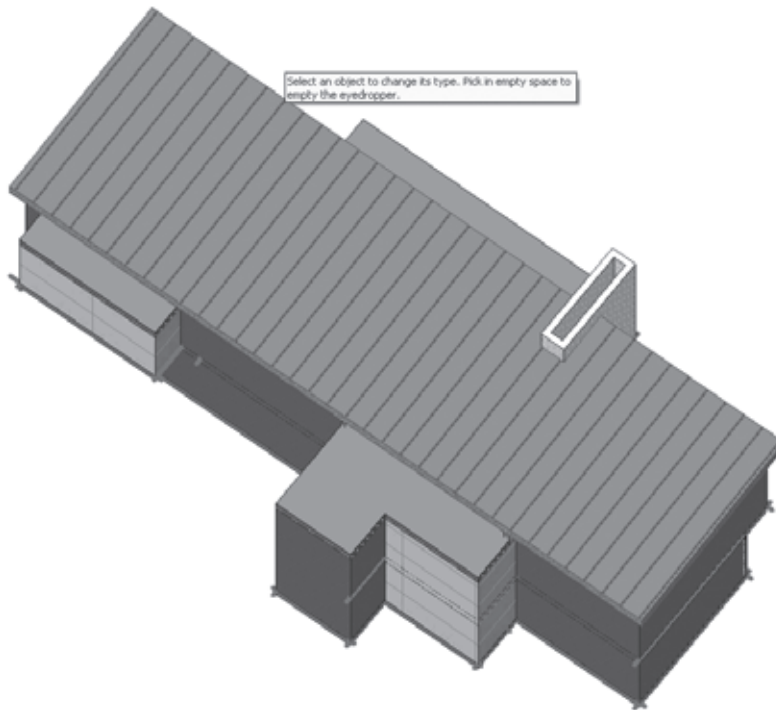

Figure 4.76
2. Select the main roof. Note that the cursor appears filled — as if you sucked that type into your dropper. With each selection, you can change types belonging to the same category (in this case, the category Roof; see Figure 4.76). Press the Esc key twice to exit the command.